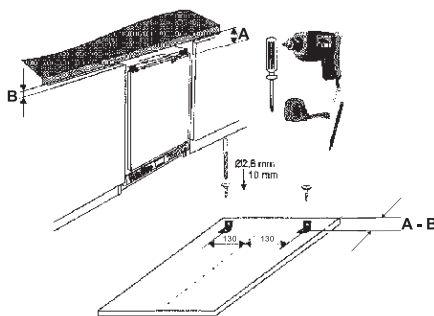

Figure 4
1) Remove the upper fixing flanges from the appliance's door(Figure 4).